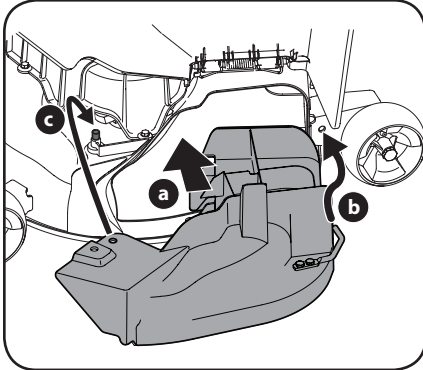

Figure 1-5
3. To install the mulch plug, pivot the discharge chute upward and refer to Figure 1-5: